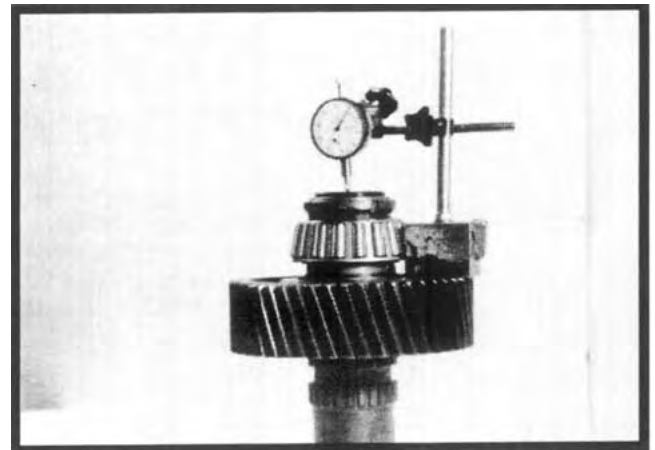

Figure 4.18
1. To facilitate reassembly, the gear end float on the shaft should be checked prior to disassembly. Install a dial indicator with a magnetic base as pictured in Figure 4.18. Lift upward on the gear and note the amount of end float. The specified amount of end float is between .000 and .002 inches. A greater amount usually indicates worn bearings.